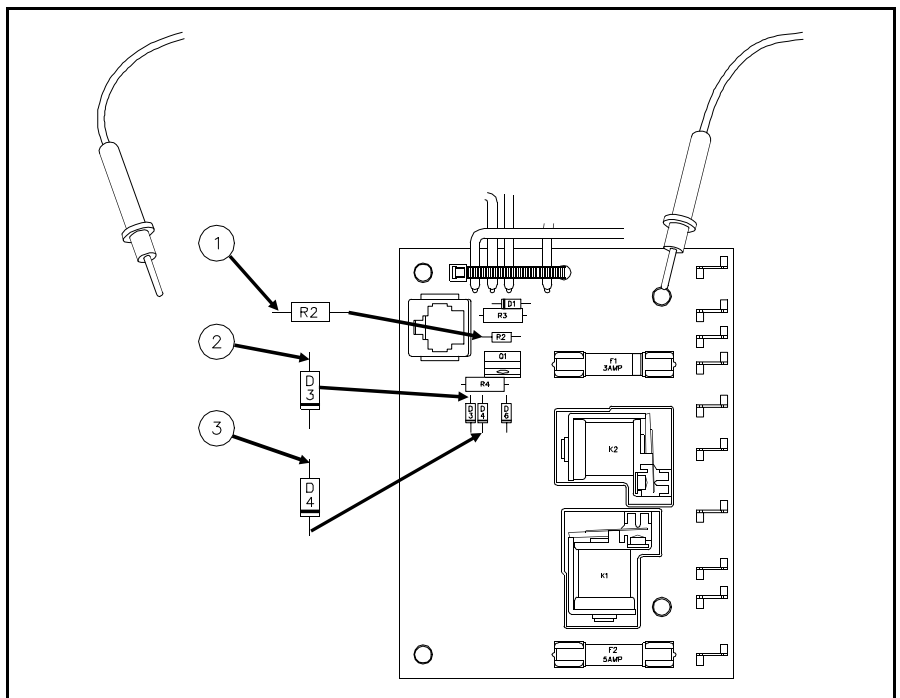

Figure 5.26 12 Volt DC Voltage Check
10. Using the volt meter, check for 12 volts DC at the locations 1, 2, 3 shown in Figure 5.26.